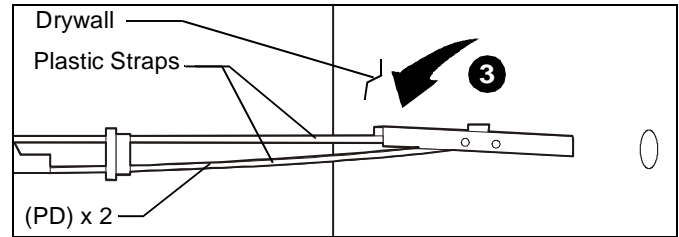

Figure 16
3. Hold metal channel on anchor (PD) flat alongside plastic straps and slide channel through hole. (See Figure 16)